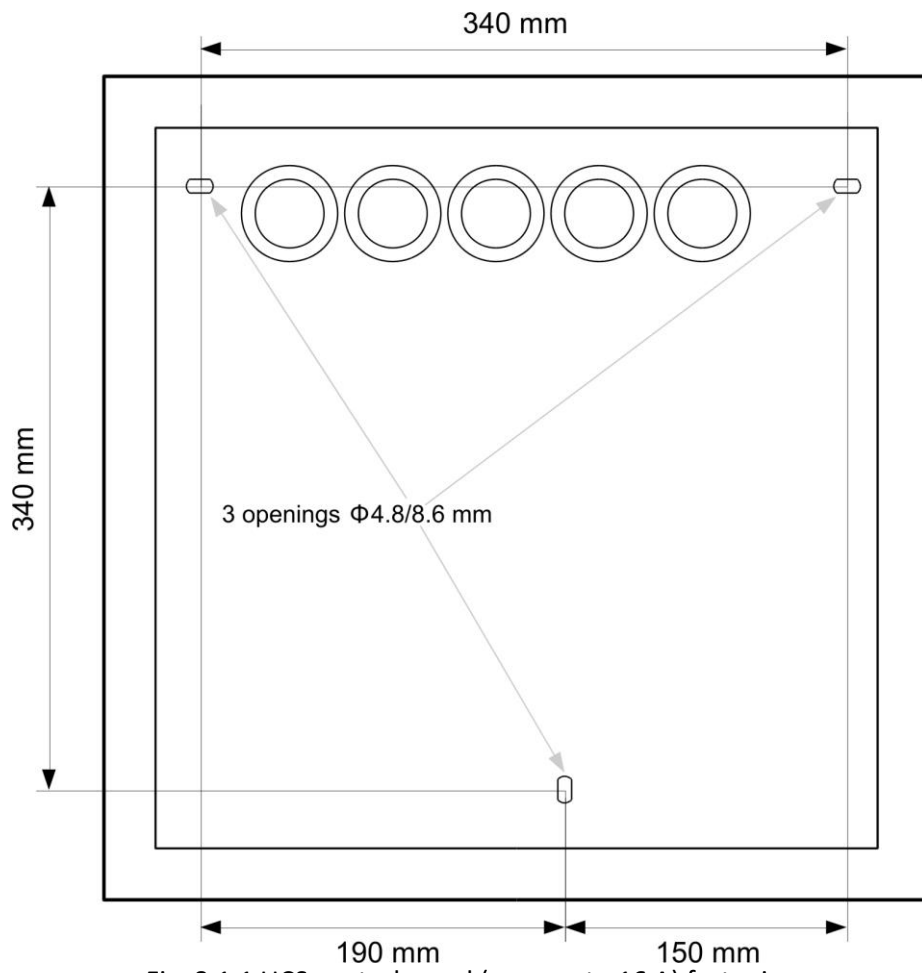

Fig. 8.1.1 UCS control panel (case up to 16 A) fastening
- should be mounted on the wall with three M5 bolts and expansion anchor bolts of the diameter at min. 8 mm – case up to 16 A (fig. 8.1.1),